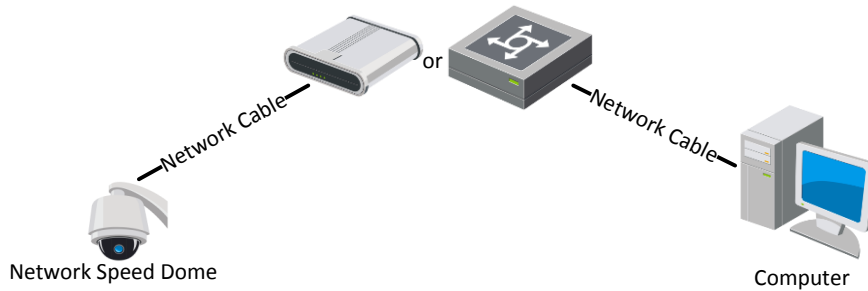

Figure 2-2 Connecting via a Switch or a Router
- Refer to the Figure 2-2 to set the network camera over the LAN via a switch or a router.